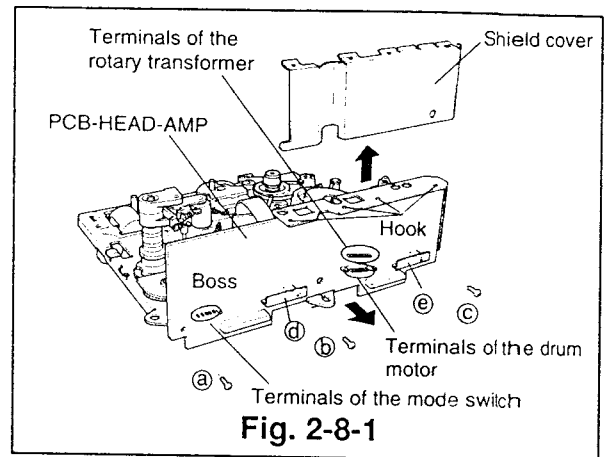
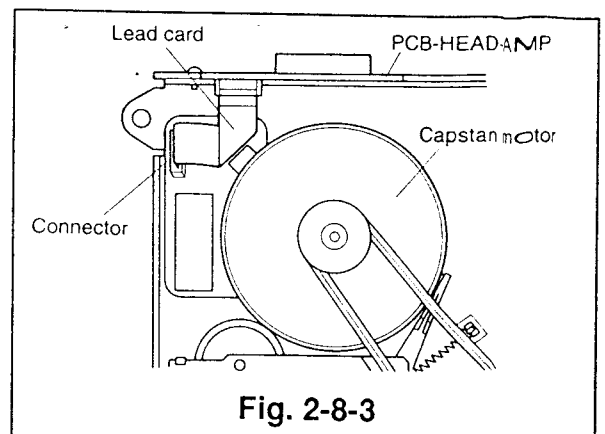

Fig. 2-8-1
Fig. 2-8-3
- ① Unfasten the hook and raise the head amp shield cover shown in Fig. 2-8-1 to remove it.
- ② Unsolder the terminals of the mode switch, the drum motor, and the rotary transformer shown in Fig. 2-8-1.
- ⑤ Reverse the deck and disconnect the lead card, connecting the PCB of the capstan motor and the PCB-HEAD-AMP. (Refer to Fig. 2-8-3.)
- ⑥ Remove the three screws(Ⓐ,Ⓑ and Ⓒ) and slowly pull the PCB-HEAD-AMP in the direction shown by the arrows. (Refer to Fig. 2-8-1.)
- ① Insert the terminals of the mode switch, the drum motor, and the rotary transformer, and the boss, adjacent to the mode switch, in the matching holes on the PCB-HEAD-AMP and secure the PCB-HEAD AMP with the three screws(Ⓐ,Ⓑ and Ⓒ) in the order, Ⓑ→Ⓒ→Ⓐ.(Refer to Fig. 2-8-1)
- ② Solder the pins mentioned in Item ①.
- ③ Reverse the deck and reconnect the lead card connecting the PCB of the capstan motor and the PCB-HEAD AMP (Refer to Fig. 2-8-3.) Take care not to fit lead card upside down.